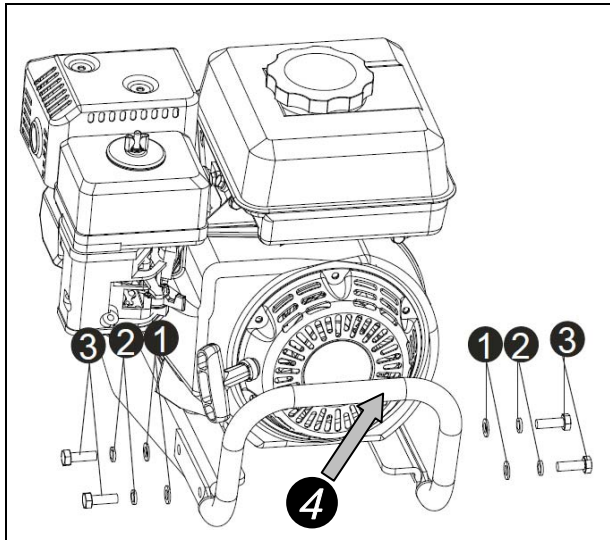

Fig.10
**STEP7 Attach the front handle.(Fig.10)**
1. Place the catcher ④(Fig10) to two sides of motor mount bracket
2. Insert four fastness bolts ①.②.③(Fig.10) for each side in every holes.